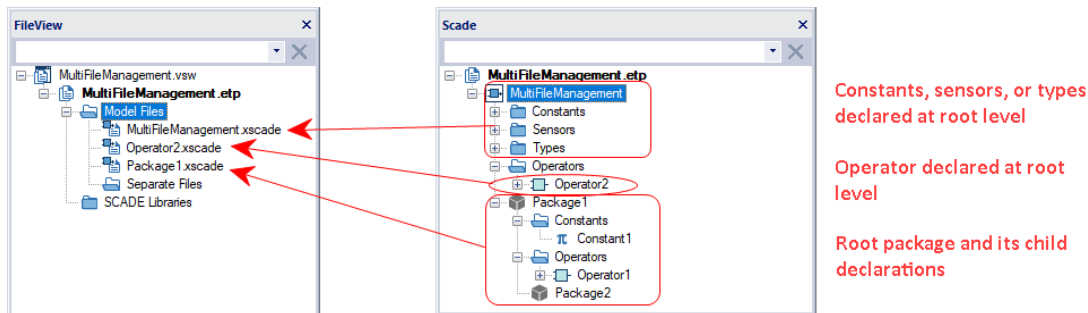

Figure 1.17: Default separation of files disabled at project level
- Uncheck to save new child operator or child package in the same file named <PackageName> .xscade corresponding to the top-level package (see Figure 1.17).